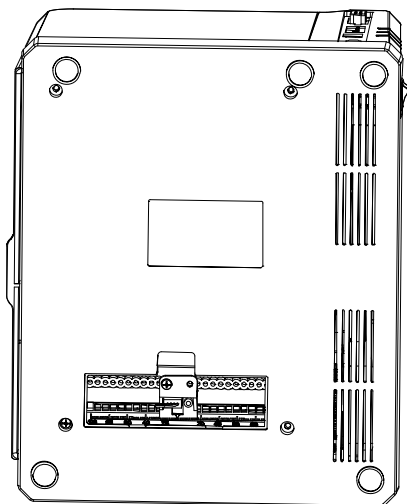

Figure 7-7
4. Remove the media sensor cover, remove the screw, adjust the media sensor to the appropriate position, then fix the screw back (Figure 7-7)